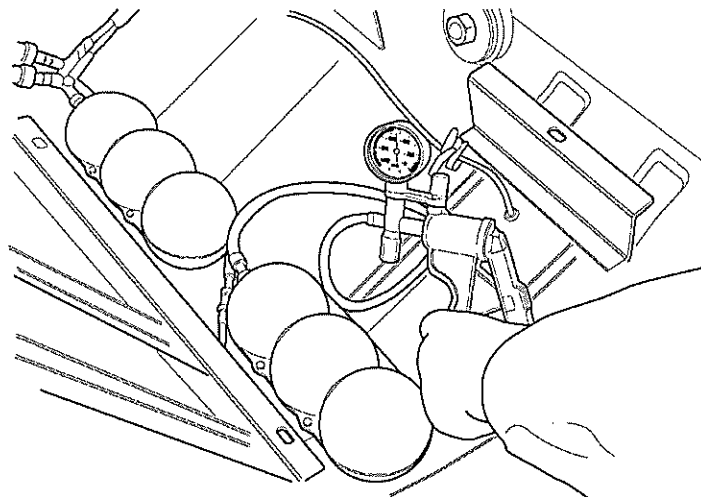

Fig 22 Testing vacuum reservoir
39.3 Connect vacuum pump to reservoir. Actuate pump to produce a vacuum of 500-600 mbar. If vacuum drops, replace reservoir (see Fig 22).